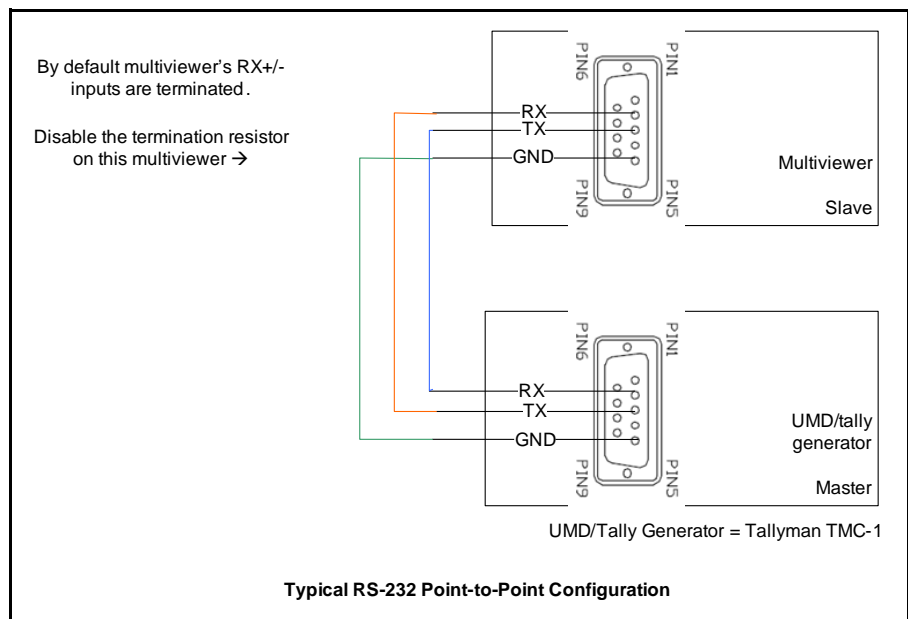

Figure C-6 Typical RS-232 Point-to-Point Configuration
- RS-232 cable connection between a multiviewer (COM 1–4) and a UMD/tally device (see Figure C-6 on page 89)